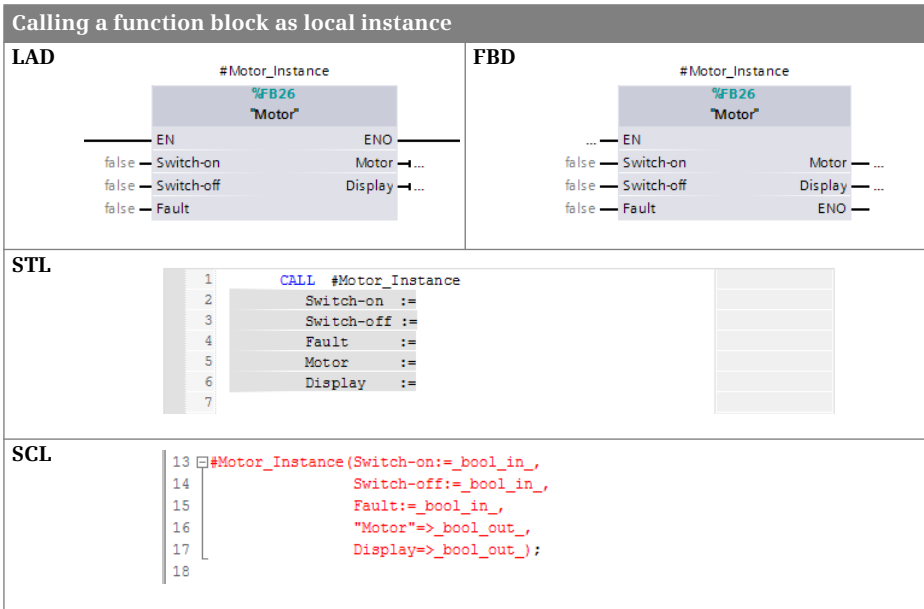

Fig. 5.11 Calling a function block as local instance
Fig. 5.11 shows an example of calling a function block (FB) as a local instance in the various programming languages. The function block in the example is named “*Motor*”, the assigned instance data is named *#Motor_Instance*.